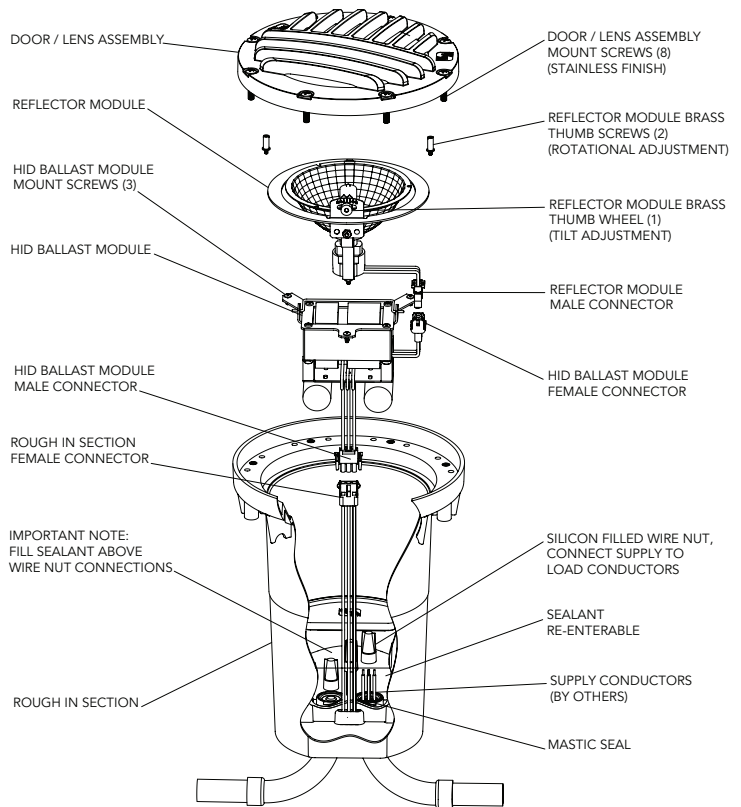

Figure 3
5. Using the silicone filled wirenuts (provided), connect the load conductors located within the junction box to the supply conductors (see fig. 3).
10. Cut off the corner of the sealant pouch and immediately pour into the wiring compartment completely covering the wirenuts (see fig. 3). Allow sealant to dry for approximately 20 minutes.